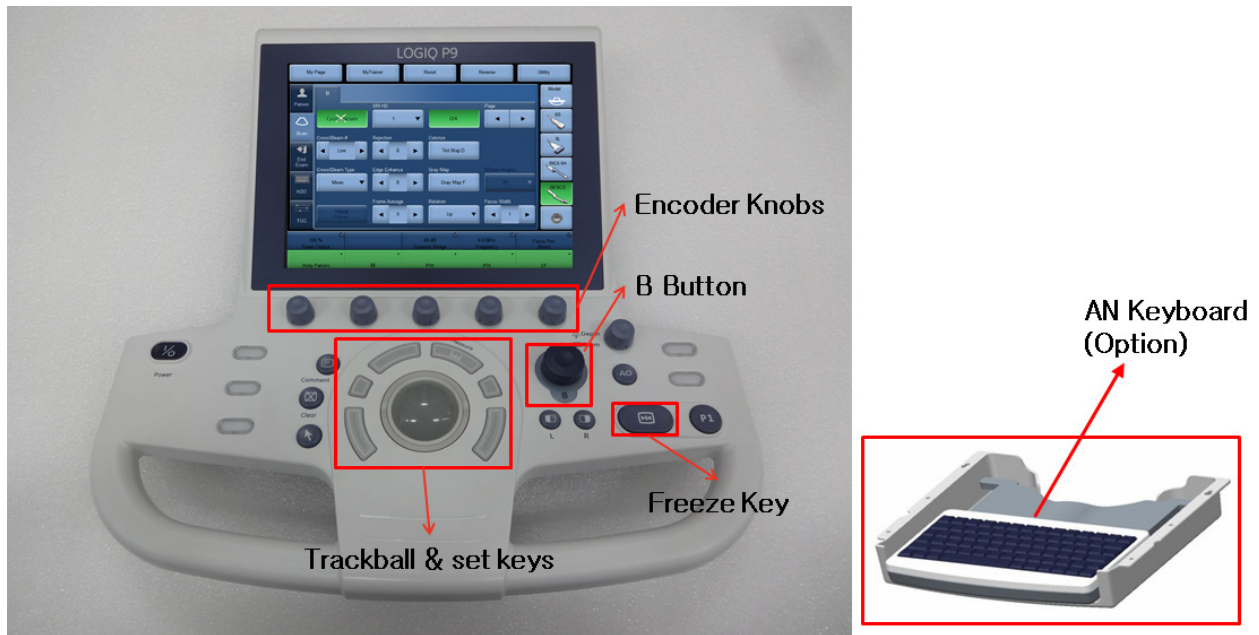

Figure 4-18 OPIO
- 4) Turn encorder knobs as shown in Figure 4-18.